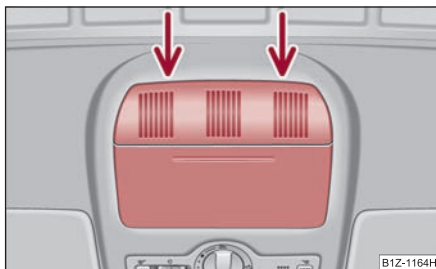

Fig. 46 Detail of the headliner: Points for positioning screwdriver
- Position the flat blade of a screwdriver carefully against the rear edge of the cover of the electrical drive ⇒ fig. 46.